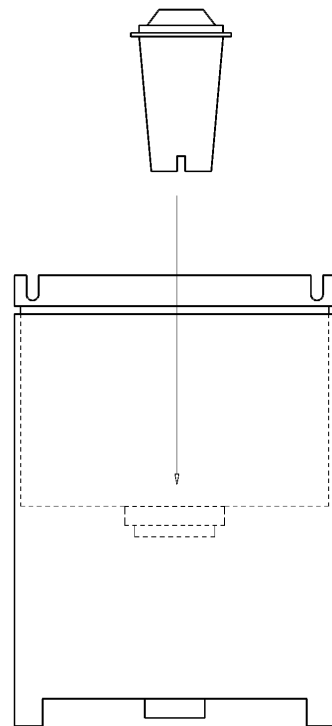

Fig. 6
- Take the lid off the water tank (ref.27) and take out the Brita filter.
- Take the filter out of the packaging and soak it in cold water for half an hour before fitting it firmly into the hole in the tank (fig.6).